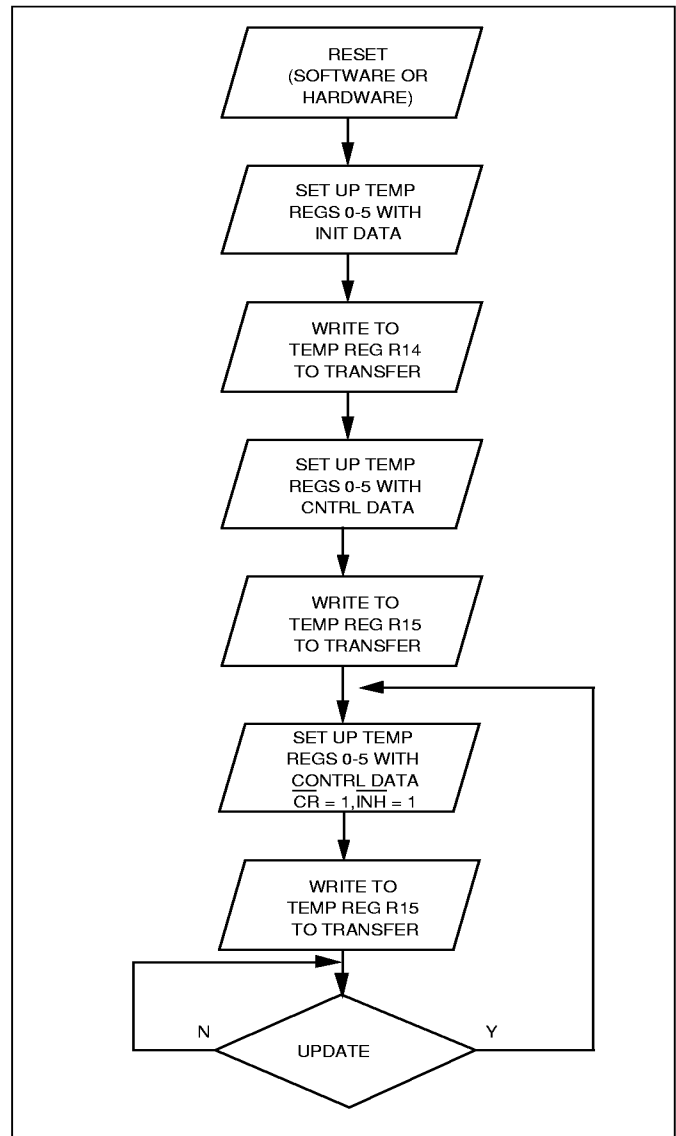

Fig.12 SA4828 programming example
2. Following a reset sequence after power up, in order to prevent spurious operation, it is essential to write known values to the Initialisation and Control Registers before the $\overline{\text{INH}}$ bit is set to a logic "1" state. (See Fig.12 Programming example.)
Since the address is written into the SA4828 during each write cycle, this mode of operation is the simplest in terms of the required software. Fig. 12 shows a typical programming example when using multiplexed data buses.